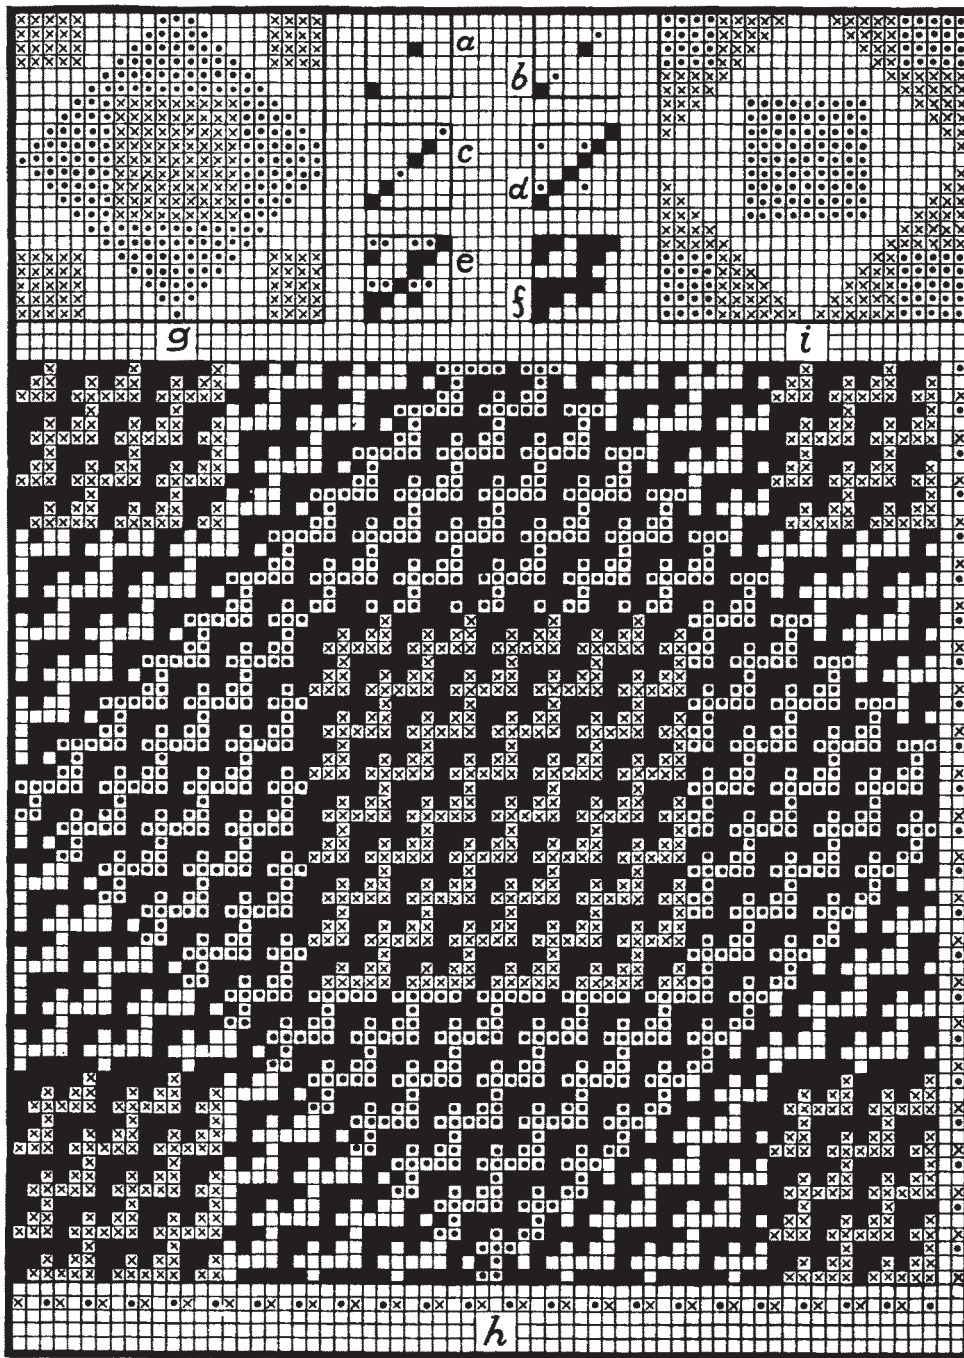

Fig. 38
(2) Consider white rows of squares as belonging to the first ply, all the yellow squares to the second ply, and all the green squares to the third ply.
(3) Paint plain weave in *red* on the *first* ply (on white). This forms the top-ply structure. See diagram *a* in Fig. 38, and where *full* type indicates the *red* previously referred to.
(4) Paint plain weave in *blue* on the *second* ply, considering only squares where both yellow stripes meet. See diagram *b* in Fig. 38 and where *dot* type indicates the *blue* previously referred to.
(5) Paint plain weave in *black* on the *third* ply, considering in this instance only squares where both green stripes meet. See diagram *c* in Fig. 38 and where *dot* type stands for the *black* previously referred to. Rules 3 and 4 are both shown in diagram *c* in *full* type to contrast from rule 5 thus explained.
(6) Raise on all the picks of the second ply (and which are painted yellow) all the warp-threads of the first ply, *i. e.*, white. See diagram *d* in Fig. 38 and where *dot* type stands for "raise all warp-threads of first ply on every pick of the second ply"; rules 3, 4 and 5 are shown in diagram *d* in *full* type, to contrast from rule 6 now explained, *i. e.*, shows the latter distinct. This forms the centre-ply structure.
(7) Raise on all the picks of the third ply (and which are painted green) all the warp-threads of the first and second ply, *i. e.*, white and yellow. See diagram *e* in Fig. 38 and where *dot* type stands for "raise all the warp-threads of the first and second ply on every pick of the third ply"; rules 3, 4, 5 and 6 are shown in diagram *e* in *full* type, so as to bring up rule 7 more prominently. This forms the bottom or back-ply structure.
Diagram *f* in Fig. 38 shows diagram *e* in one color, *i. e.*, a plain 3-ply cloth.
Diagram *g* in Fig. 38 shows a sketch for a fabric executed in three colors, quoted for example thus:
Diagram *i* of Fig. 38 shows the effect produced on the back of the fabric and of which *g* is the face effect. Below the weave the color scheme for the warp is given, *viz*: